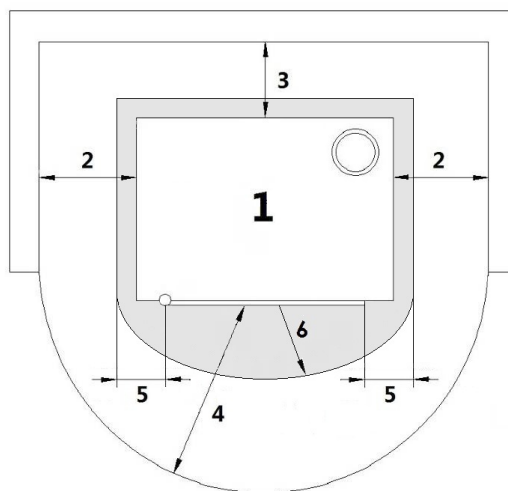

Fig. 13 - General installation
LEGEND Fig. 13 page 14
- It is obligatory to install the stove away from walls and/or pieces of furniture, with a minimum air flow of 300 mm on the sides and 300 mm on the back, to enable an efficient appliance cooling and a good distribution of heat in the room (see **Fig. 13 page 14**).
- For safety fire regulations the distances from flammable or sensible to heat objects (sofas, pieces of furniture, wooden covering, etc...) must be respected, as described in **Fig. 13 page 14**.
- If the walls are made up of flammable materials, check the safety distances (see **Fig. 13 page 14**).